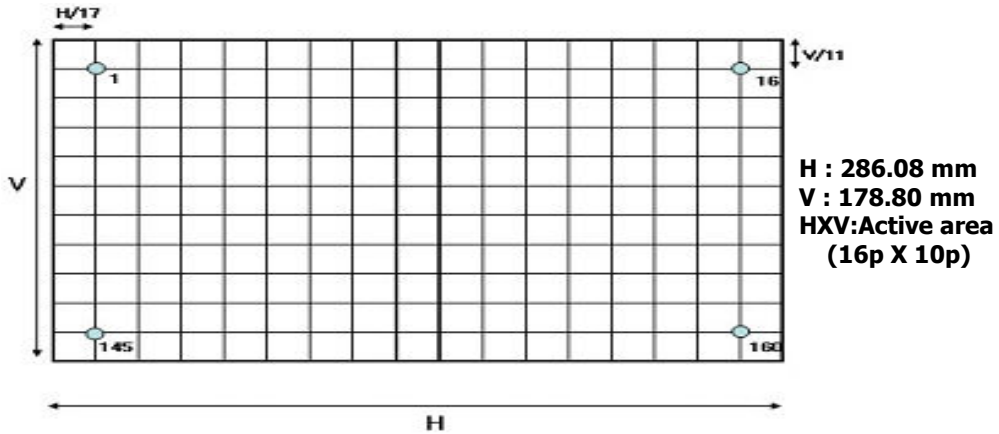

FIG. 3 Response Time
2. Response time is the time required for the display to transition from white to black (rise time, T_{rR}) and from black to white(Decay Time, T_{rD}). For additional information see FIG 3.